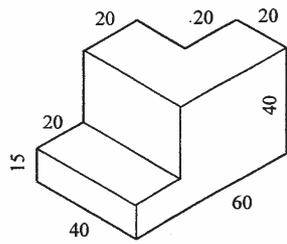

Figure 4
- (b) On the perspective grid provided, sketch a two point perspective of the block shown in figure 4.